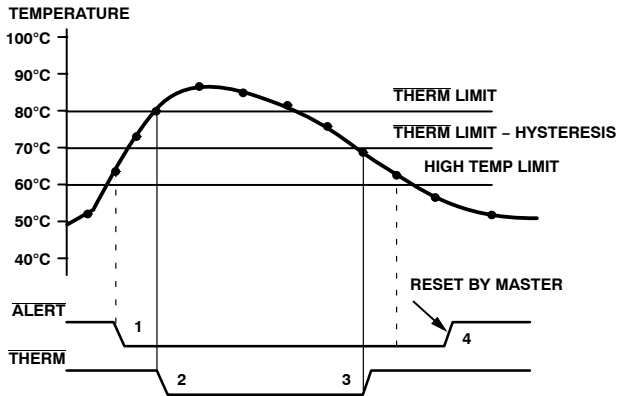

Figure 19. Operation of the $\overline{\text{ALERT}}$ and $\overline{\text{THERM}}$ Interrupts
Figure 19 shows how the $\overline{\text{THERM}}$ and $\overline{\text{ALERT}}$ outputs operate. The $\overline{\text{ALERT}}$ output can be used as an $\overline{\text{SMBALERT}}$ to signal to the host via the SMBus that the temperature has risen. If the temperature continues to increase, the $\overline{\text{THERM}}$ output can be used to turn on a fan to cool the system. This method ensures that there is a fail-safe mechanism to cool the system, without the need for host intervention.
- The $\overline{\text{THERM}}$ output deasserts (goes high) when the temperature falls to $\overline{\text{THERM}}$ limit minus hysteresis. In Figure 19, the default hysteresis value of 10°C is shown.